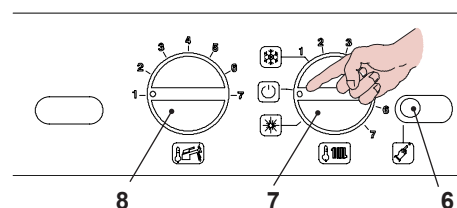

Figure 15.28
- To exit programming, position the function selector/heating temperature adjustment knob 7 as shown in Figure 15.28.